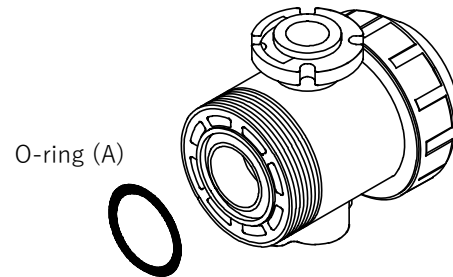

Figure 5.3-2
- 8) Confirm that the O-ring (A) is correctly installed on the body (**Figure 5.3-2**).
- 9) Bring the end connector into contact with the body so that the O-ring (A) does not come off.